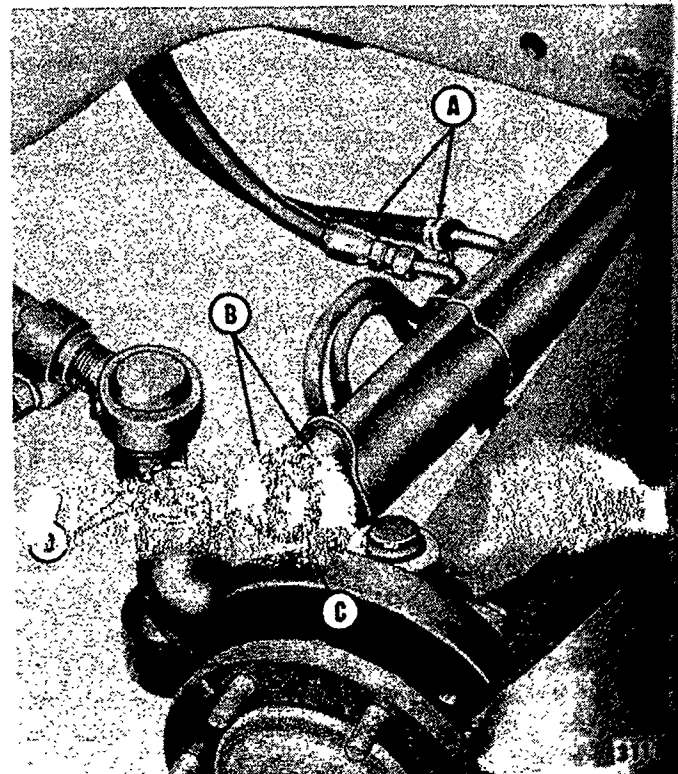
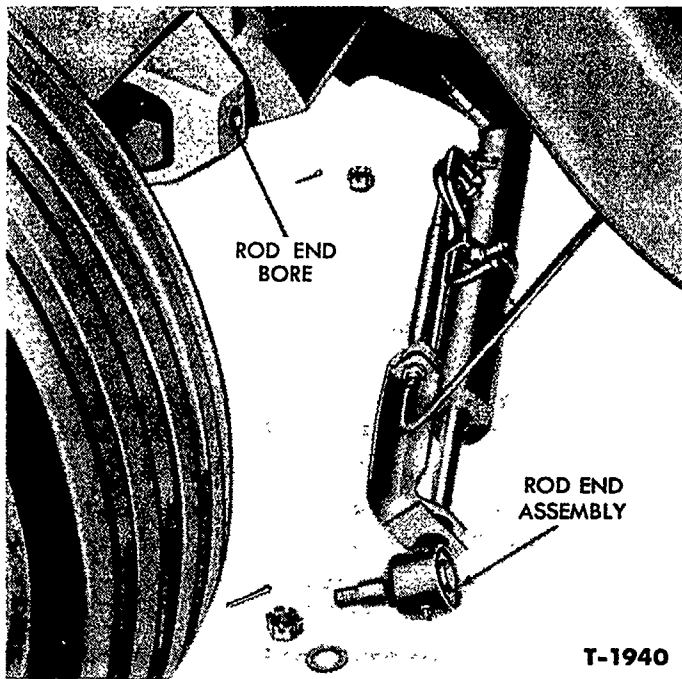

Figure 10—Power Cylinder Assembly with Boot and Shields Removed
Figure 11—Power Steering Cylinder Assembly Removed
3. Remove nut (C), Figure 10, from the cable end and disconnect the tube bracket from the cylinder at (B), by removing the two bolts and washers.
4. Disconnect the piston rod end, Figure 11, from the axle by removing the cotter pin and the
5. Disconnect the cylinder end of the power cylinder from the right steering arm by removing the cotter pin and castellated nut (D), Figure 10, to free the assembly as shown in Figure 11.
NOTE: The right front wheel has been removed in Figure 10 for purposes of illustration only.
2. Install lock nut (C), Figure 10, on the end of the control cable.
4. Position the cylinder end of the power cylinder to the right steering arm and secure with the castellated nut and the cotter pin (D), Figure 10.
5. Position the piston rod end assembly to the bore in the front axle, Figure 11, and secure with the castellated nut and the cotter pin.